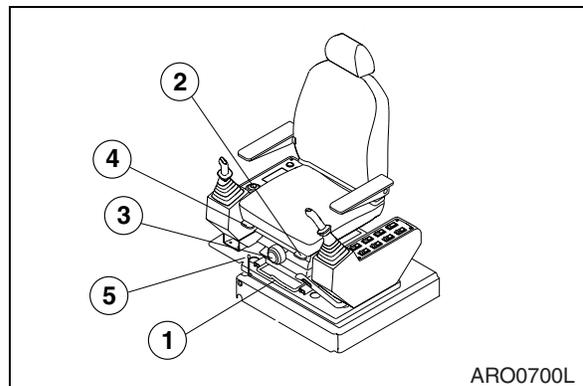

Figure 83
### 1. FORWARD / BACKWARD ADJUSTMENT (FIGURE 83)
Holding lever (1, Figure 83), raise it up, while pushing or pulling the seat to desired position. Release lever once desired position is reached. Adjustment range is 160 mm (6.3 in)
### 2. ADJUSTING THE SEAT'S TILT AND SEAT HEIGHT (FIGURE 83)
Push lever (2, Figure 83) down to adjust the angle of the front of the seat.
Pull lever (2, Figure 83) up to adjust the angle of the rear of the seat.
### 3. WEIGHT ADJUSTMENT (FIGURE 83)
Turning knob (3, Figure 83) to right makes the suspension harder. Turning knob to left makes the suspension softer. Adjust according to operator's weight by checking the weight indicator dial. Adjustment range is from 50 - 120 kg (110 - 265 lb).
### 4. ADJUSTING RECLINING (FIGURE 83)
Pulling up the right lever (4, Figure 83) allows the seat backrest to be moved forward or backward.
**5. MOVING THE TOTAL SEAT SETTING FORWARD/BACKWARD (FIGURE 83)**